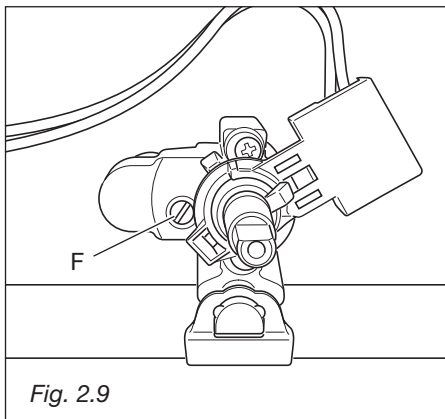

Fig. 2.9
- With a thin screwdriver turn the screw **F** until adjustment is correct (fig. 2.9).